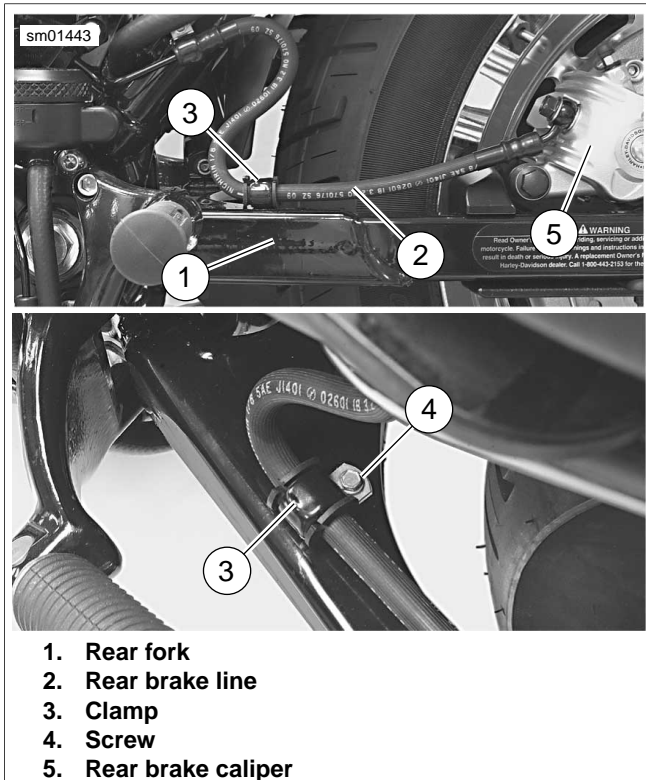

Figure 1-35. Rear Brake Line
- Tighten axle nut (4) to 95-105 ft-lbs (129-142 Nm). Install e-clip (1).
- See Figure 1-35. Reposition clamp (3) on rear brake line (2) and secure clamp to rear fork (1) with screw (4). Tighten to 30-40 in-lbs (3.4-4.5 Nm).